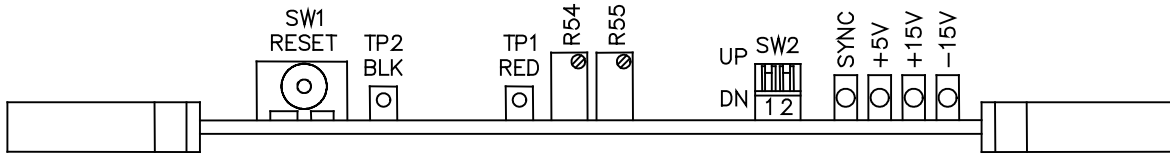

Figure 7.2
2. Connect the oscilloscope to the questionable waveform test points. See Figure 7.2.
To adjust the signal generator, refer to Figure 7.2 and proceed as follows: